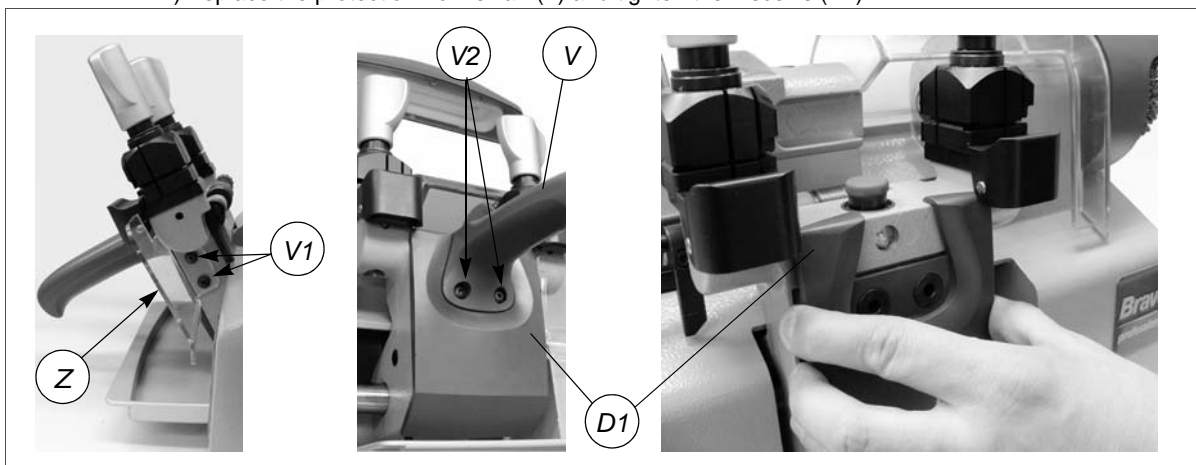
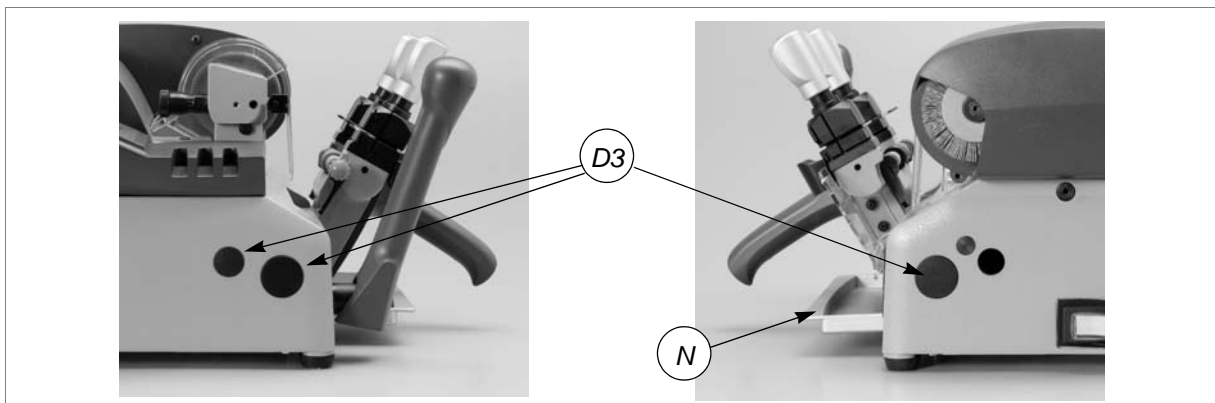
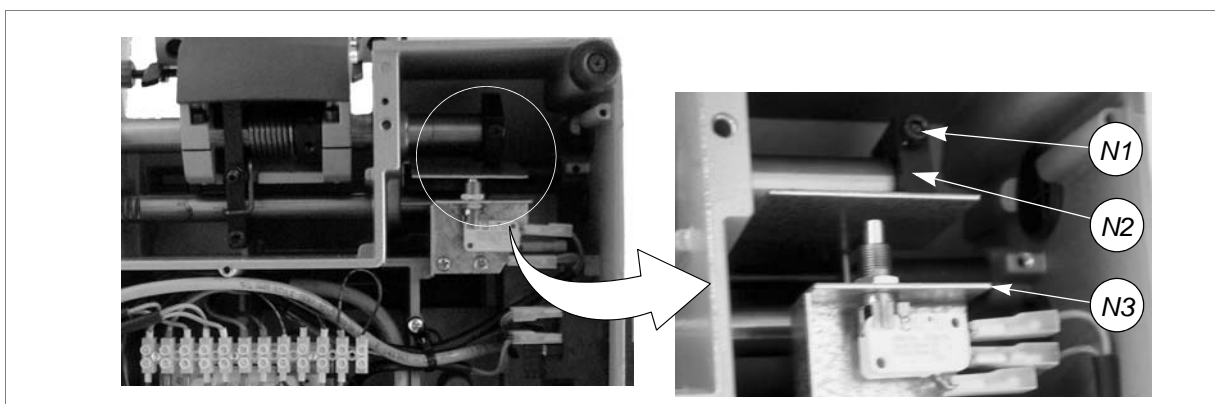

Fig. 44
Fig. 46
Fig. 47
- 2) Loosen the 2 screws (V1) and remove the protection from swarf (Z) (fig.44).
- 4) Loosen the 2 screws (V2) on the carriage knob (V) (fig.44).
- 5) To remove the knob (V), raise a little and pull off.
- 8) Remove the caps (D3) from the base (fig. 46, page 29).
- 9) Remove the swarf tray (N).
- 11) Loosen the 7 screws (W) and 2 feet (W1) and remove the bottom panel (W2) (ch.7.7, page 22).
- 12) Loosen the screw (N1) on the cam (N2) (fig. 47, page 29) and pull the cam to the right to remove.
- 18) Replace the cam (N2) so that it pushes the plate (N3) hard up against the microswitch; tighten the screw (N1) (fig. 47, page 29).
- 19) Replace the bottom panel and fix with the 7 screws (W) and 2 feet. Fit the swarf tray.
- 22) Replace the carriage safety shield (D1) and fit the knob (V), pressing it downwards.
- 24) Replace the protection from swarf (Z) and tighten the 2 screws (V1).